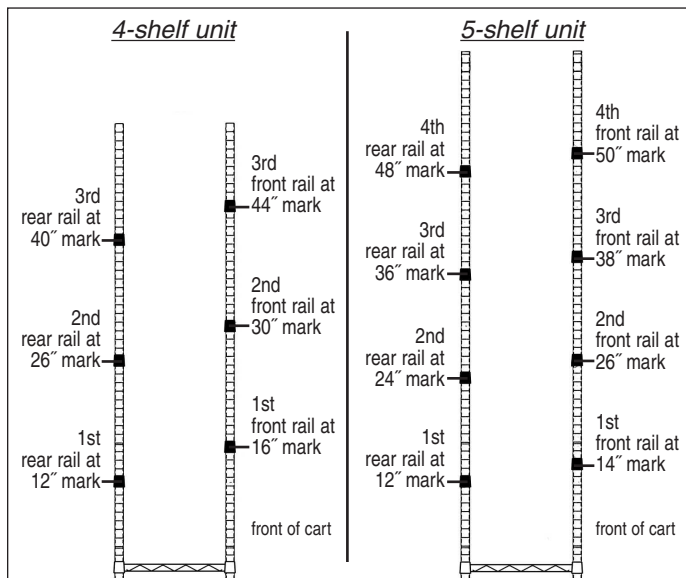

figure 3
**A** Assemble one rail at a time. Refer to *figure 3* for location of split sleeves and rails. Snap split sleeves onto number on each post (2 sets of split sleeves per rail).
**C** Repeat Steps 3a and 3b to assemble all rails. Refer to *figure 3* for location of split sleeves and rails.
- A Start with the bottom shelf. Hook shelf downturn over 1st rear rail (located at the 12" mark on post as shown in *figure 3*).